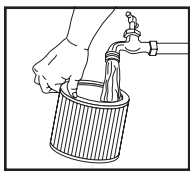

FIGURE 11
17. Or rinse (from the inside of the filter) with water. **FIGURE 11.** Dry completely (approximately 24 hours).